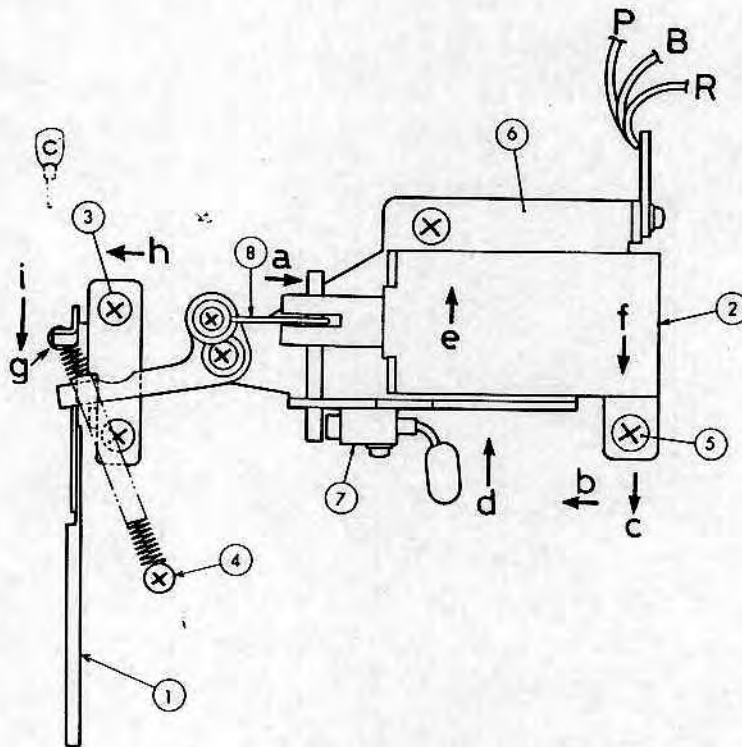

FIG. 37
TROUBLESHOOTING: (Refer to Fig. 37)
1. After removal of the main motor (Refer to Page 70) unscrew the (3)x2 and remove the (1). If necessity of removing the (4), take off the fan motor (Refer to Page 70) in advance.
2. Unscrew the (5)x2 and remove the (6) assembly. Unsolder the three wires on the (6).
3. For further disassembly, refer to Fig. 37.